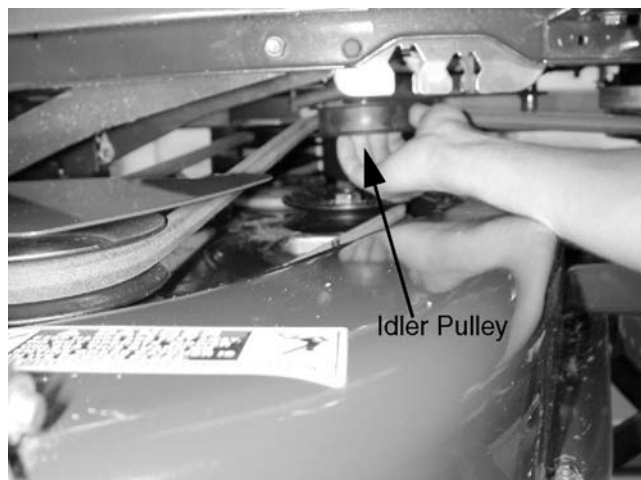

Figure 11-5
3. Relieve the belt tension pulley. See Figure 11-5.